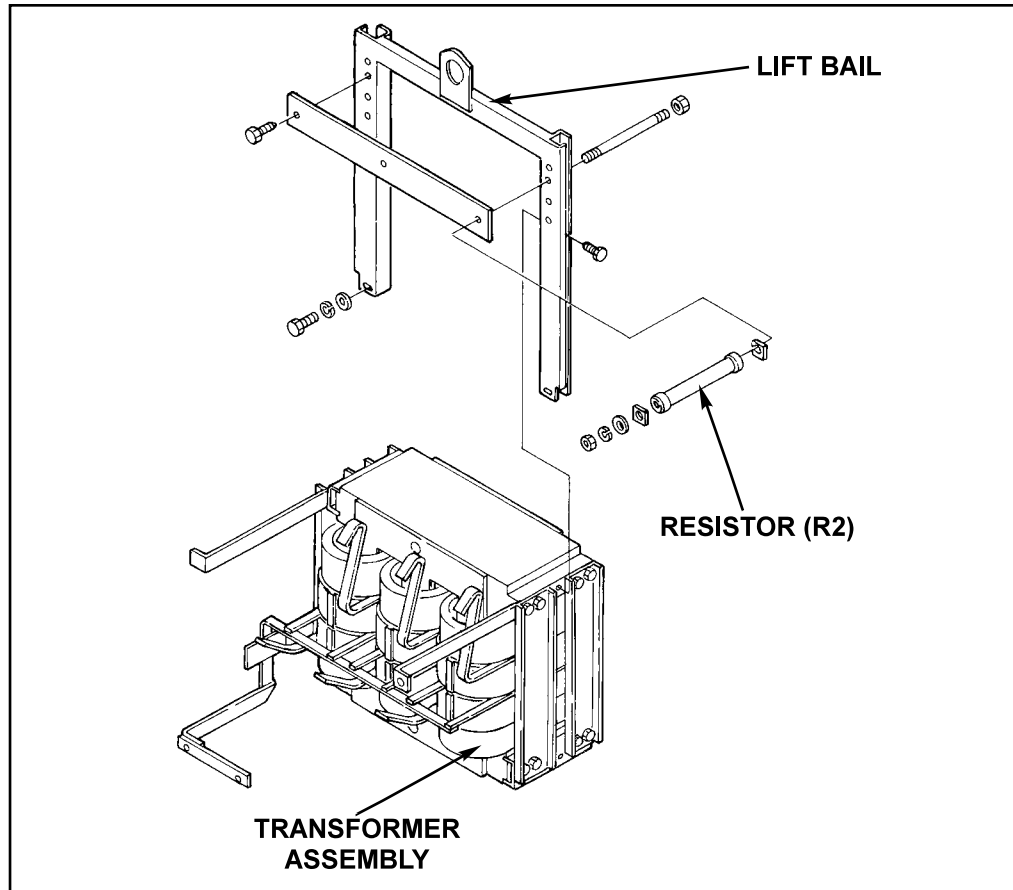

FIGURE F.25 - Lift Bail Removal
6. Using a 9/16" socket wrench, remove the four bolts and associated washers mounting the lift bail to the base assembly. See Figure F.25.